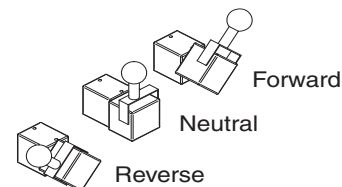

Figure 3 Transmission Shifter
1. Make sure the transmission shifter is in the “neutral” position (see Figure 3).